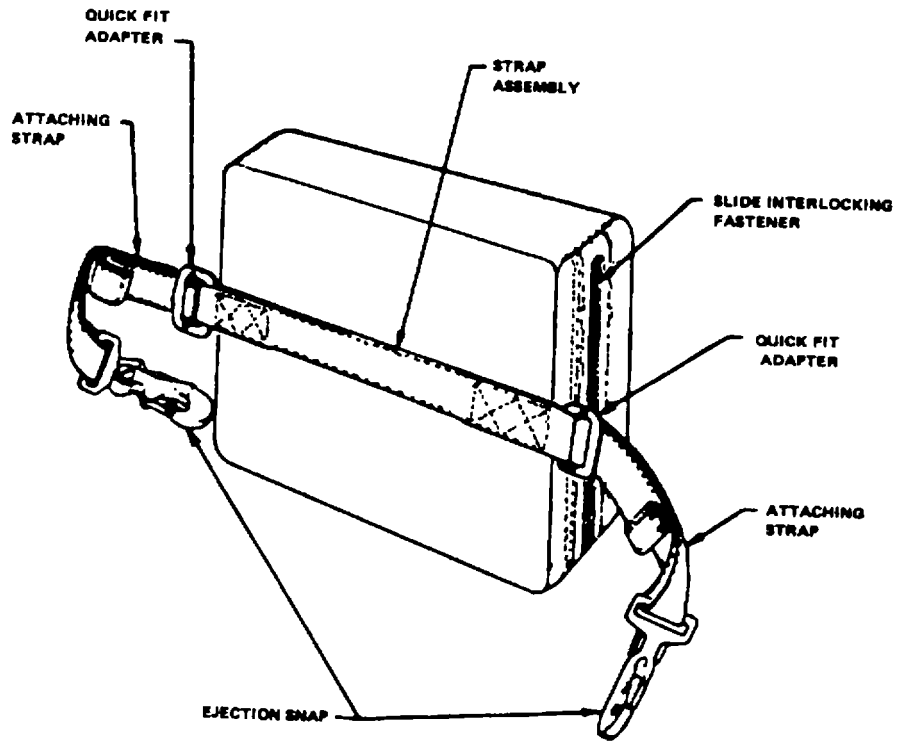

Figure 2-9. Inner Case
- (a) Restitching. Restitch broken or loose stitching on an inner case (See Figure 2-9), except the connecting strap, according to original construction details, using the procedures in paragraph 2.12 and the specifics in Table 2-4. The connecting strap shall be restitched using a reinforcement as outlined in paragraph (g) below.
- (1) Cut the stitching which secures the original slide interlocking fastener to the inner case and remove the defective fastener.
- (2) Install a serviceable 44-1/2-inch-long, type I, style 2, size MHS, slide interlocking fastener in the original fastener location and secure the replacement fastener by stitching thread (D57) according to original installation details, using the specifics in Table 24. Stitching will be made in accordance with paragraph 2.12.